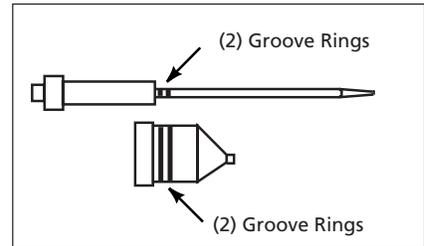

Figure 4 - Thick Material Needle Kit
- The thick material needle and nozzle have 2 groove rings as shown in Figure 4 below.